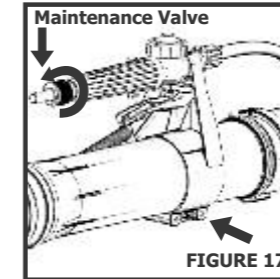
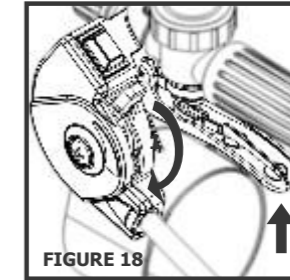

FIGURE 17
FIGURE 18
**a)** Place the machine on your back, with the engine running at idle, adjust strap length for the best comfort and a safe operation. Use a Phillips screwdriver, supplied in the Service Kit, to adjust the joystick position to match the operators' arm length(Figure 17);
**b) Engine acceleration:** push the red throttle lever all the way down as shown by the arrow in Figure 18;
**c) Opening the flow of liquid:** press the discharge valve lever (figure18) all the way, making sure that the maintenance valve located on the valve handle (Figure 17) is set to “Max” (Maximum), and start spraying.